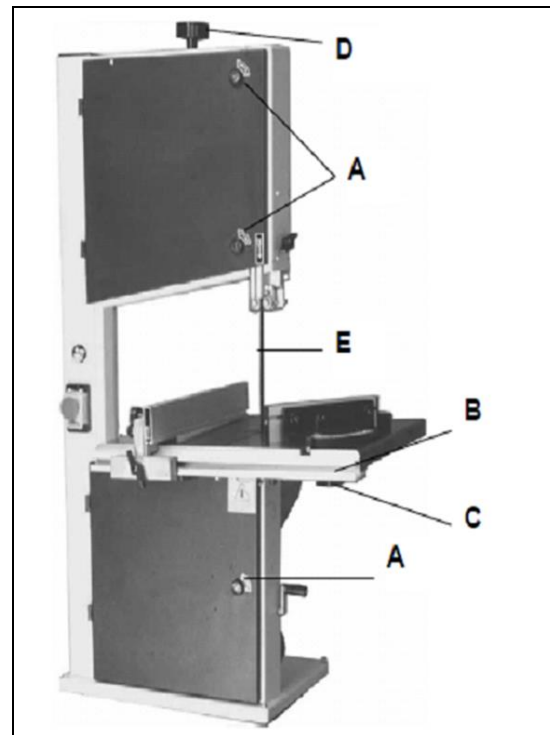

Fig 21
2. Open the top and bottom bandwheel doors by turning the door locks (A, Fig 21) with a flat bladed screwdriver.